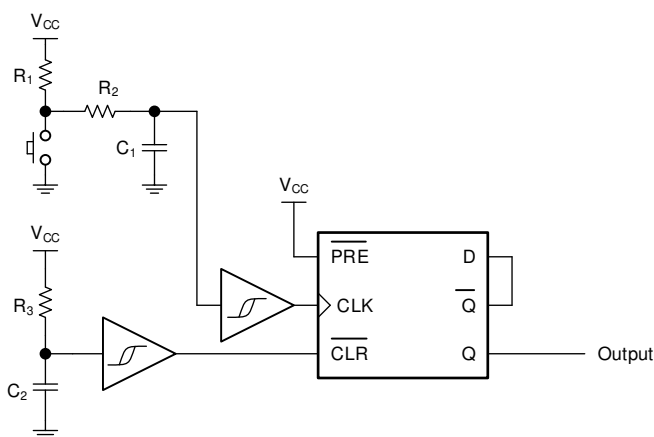

图 9. Typical application schematic
If the data input (D) of the SN74HC74-Q1 is tied to the inverted output ( $\overline{Q}$ ), then each clock pulse will cause the value at the output (Q) to toggle. The momentary switch can be debounced and connected to the buffered clock input (CLK) to toggle the output. These connections are shown in 图 9